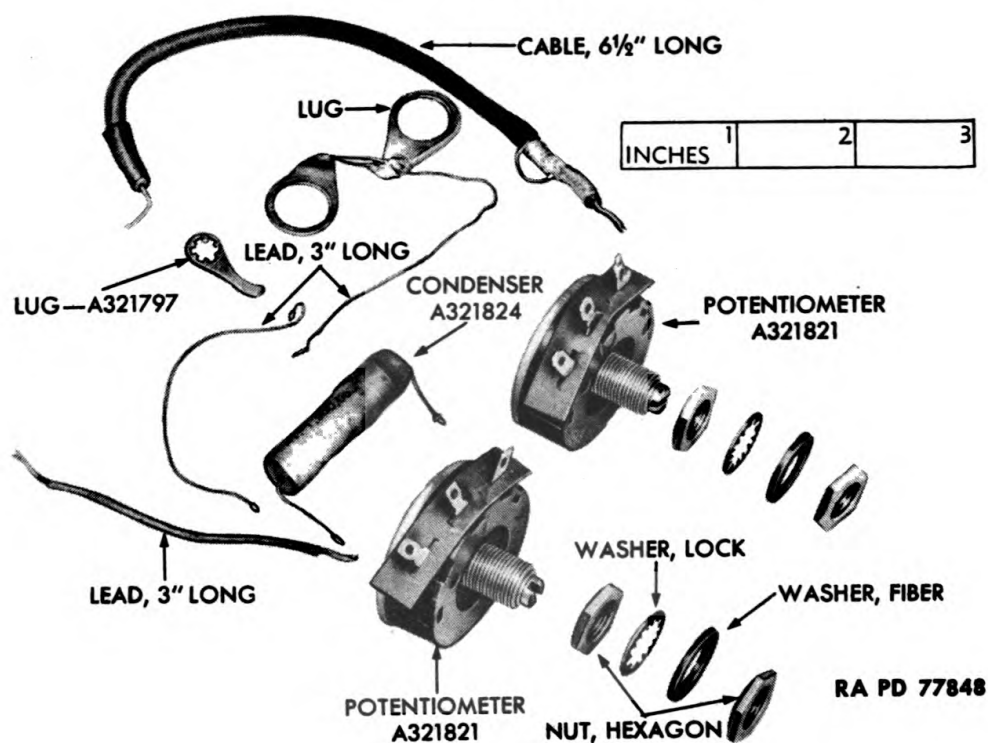

Figure 25 — Potentiometer — Parts
(20) Removal of the leads and condenser A321824 is shown in figure 25.